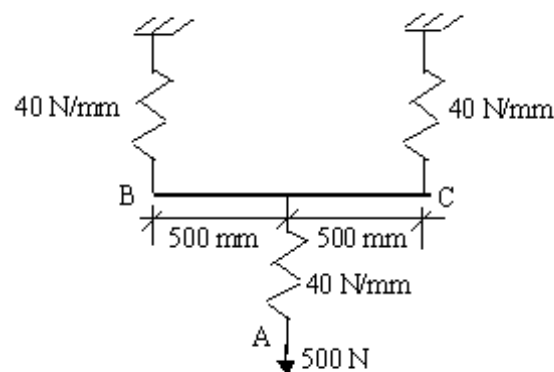

Figure 7:
- (b) Calculate displacement at A in the figure 7 shown below, when a concentrated load of 500N is applied at the free end of the structure, consisting of three equal springs and a beam BC. Assume $E=200 \text{ GPa}$ and $I=0.4 \text{ m}^4$ for the beam. [6+10]